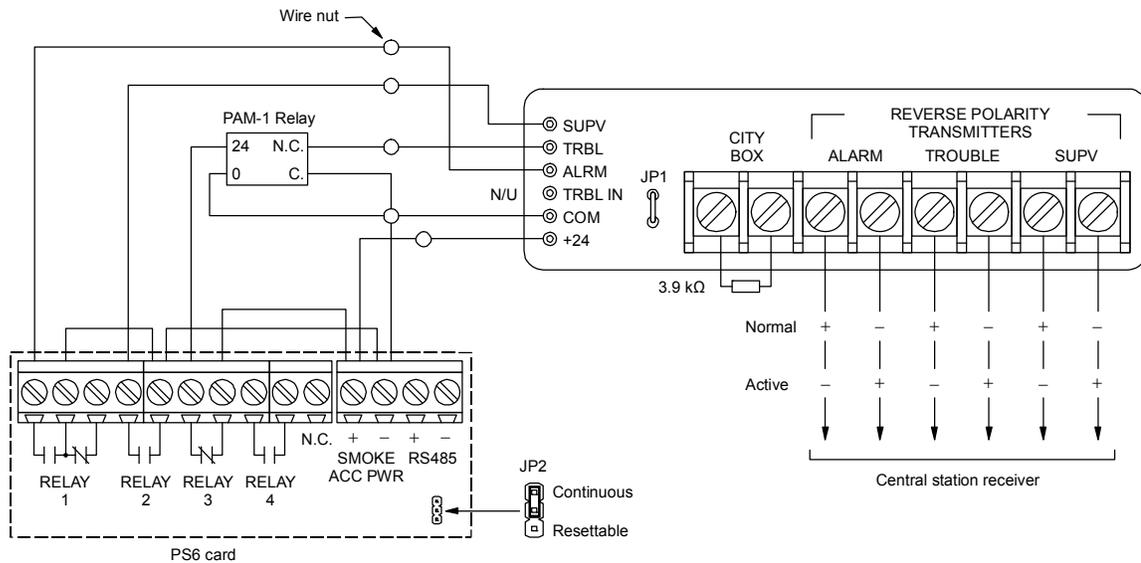

Figure 4-5: RPM wiring diagram
4. Wire the RPM to the PS6 card as shown in Figure 4-5.
The PS6 card's common trouble relay is normally held in the closed position and opens when the control panel enters the trouble state. When wired as shown in Figure 4-5, smoke/accessory power is passed through the common trouble relay and energizes the PAM-1 relay, holding its normally closed contacts in the open position. When there is a system trouble or loss of power, the common trouble relay opens and de-energizes the PAM-1 relay. This in turn closes the relay contacts and pulls the RPM's TRBL input to common.